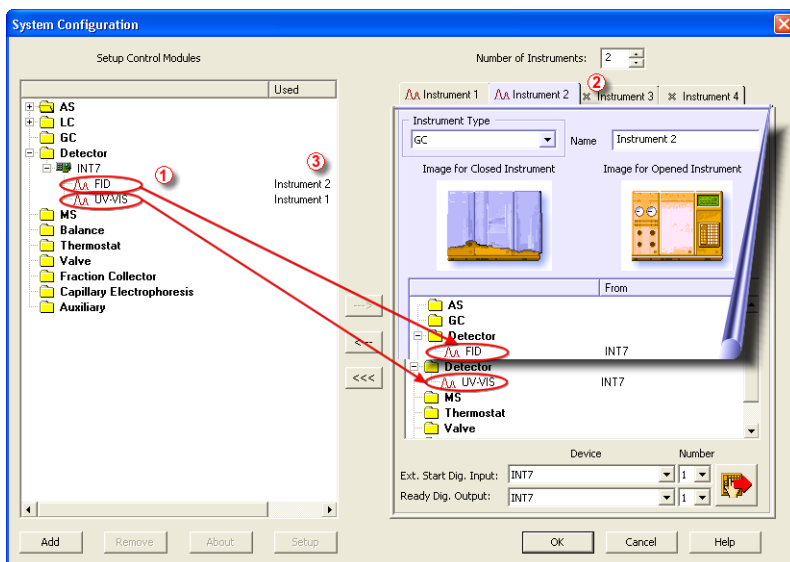

Fig. 6: System Configuration – multiple instruments
When measuring on multiple instruments using only a single **INT7** to gather data, rather than dragging the entire **INT7** icon from the *Setup Control Modules list* ①, drag the individual detector signals (**FID**, **UV-VIS** in this case) to separate Instruments ②. See **Fig. 6** on pg. 10. The Instrument to which the particular signal is connected is listed to the right ③ of the detector name in the *Setup Control Modules* section.